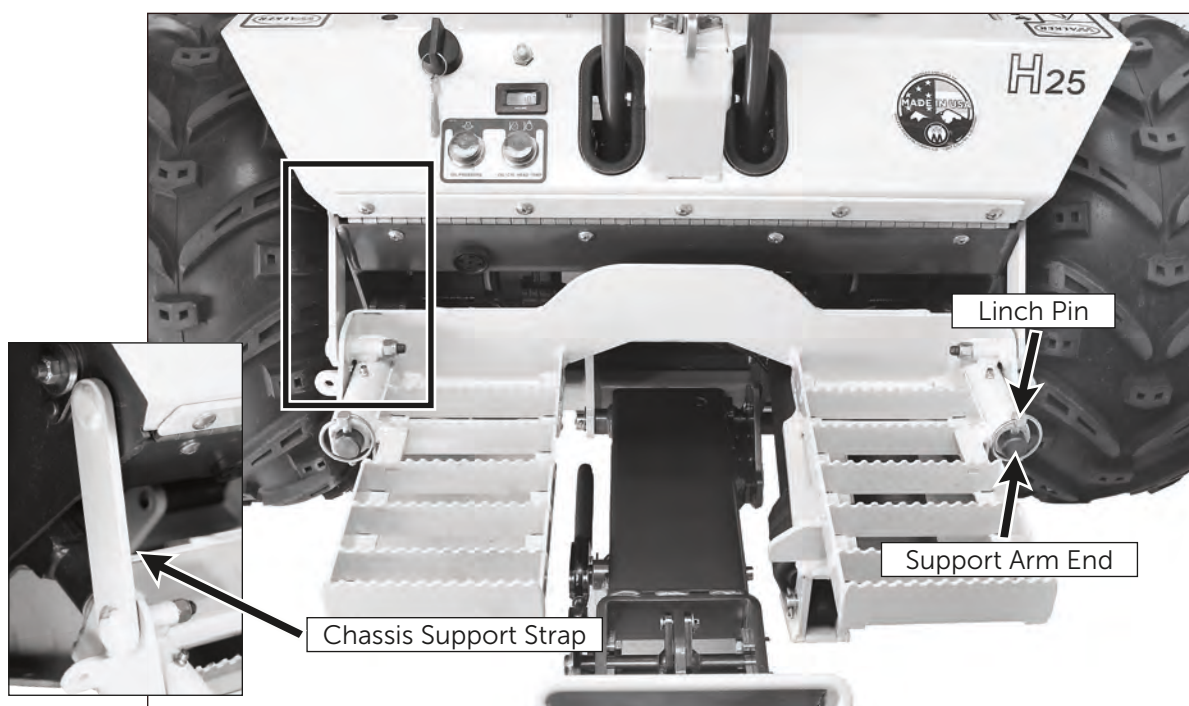

Figure 2.2
2. Lightly grease both support arms on the tractor. Refer to figure 2.2 for location of the support arms.
4. Install a linch pin through the hole on the end of each support arm to lock the hitch in place (figure 2.2).
5. Using two (2) 3/8-16 ESNA nuts, install the chassis support straps as shown in figure 2.2.